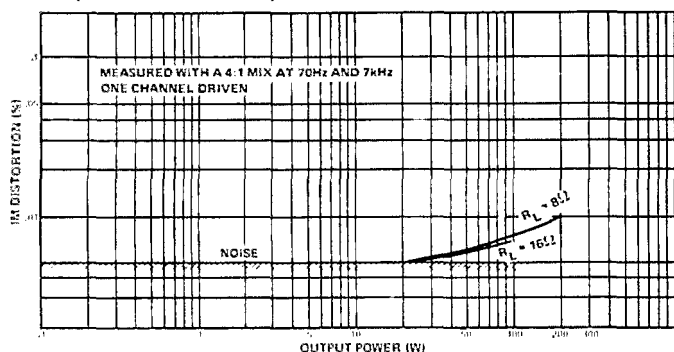

Fig. 7 - Intermodulation Distortion vs Power Output at 8 and  $16\Omega$  Load Impedance
**Intermodulation Distortion:** (Refer to Figure 7.)